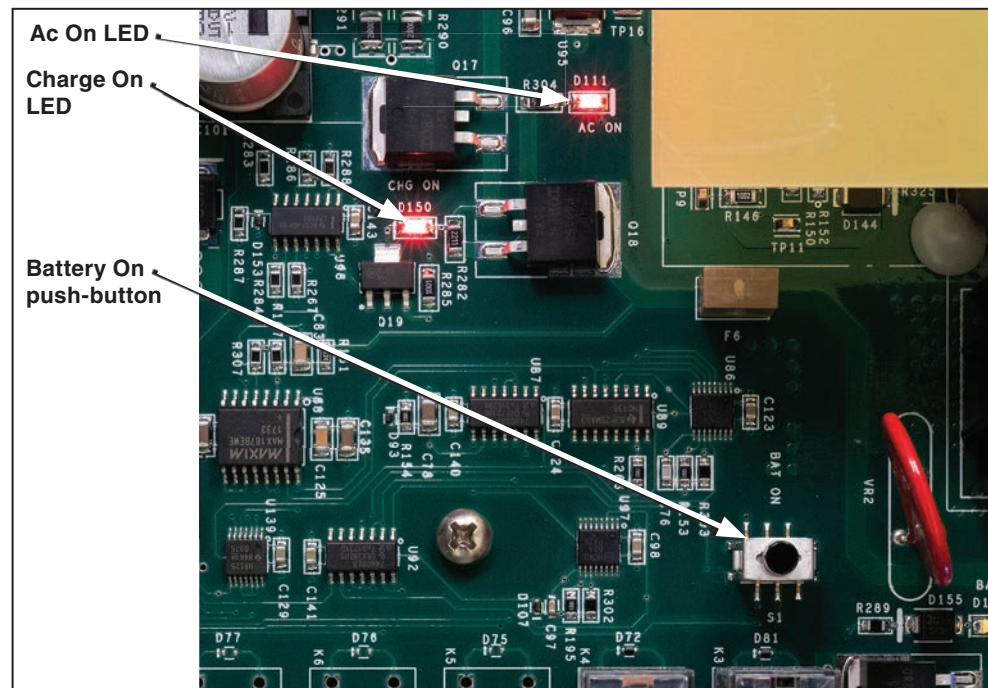

Figure 3. The Battery On (BAT ON) button on the top circuit board inside the control.
- STEP 3.** If the lights do not come on, make sure the battery is connected and push the BATTERY ON button on the control board inside the control. See Figure 3. Instruction Sheets 1045-510 and 1045-540 have more information about the battery.